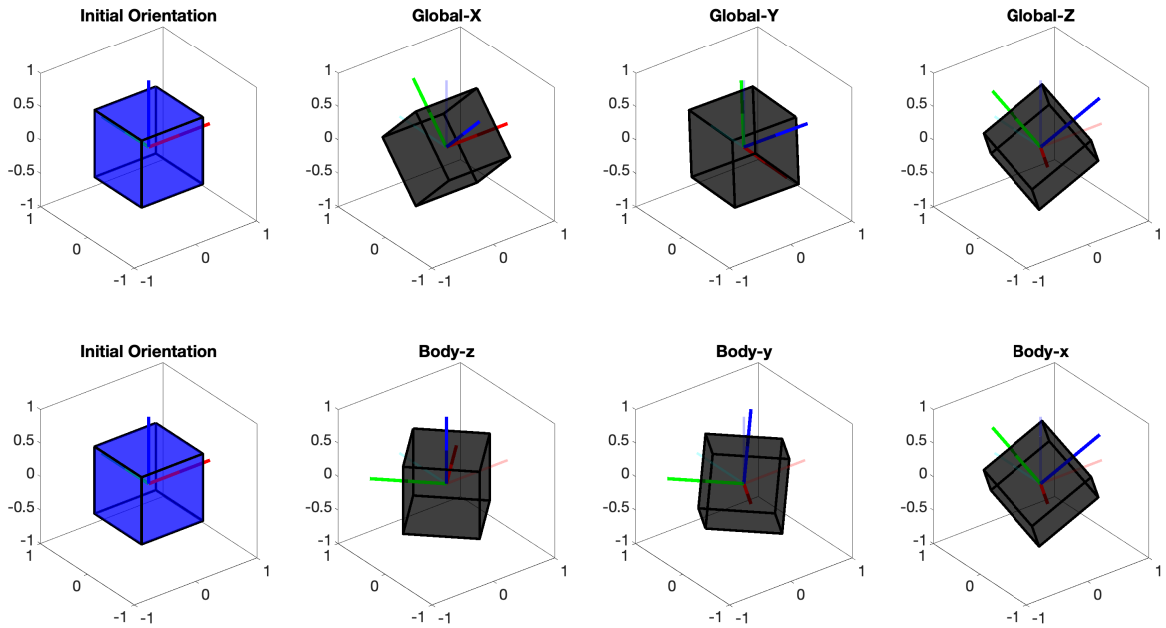

Figure 2: Solution plot for Problem 7(b).
- b. Show the equivalence of successive rotations in the Global and Body frames. First, using Global rotations, use successive 45° rotations in X - Y - Z . Starting with the initial configuration, show each successive rotation in its own subplot. In a new row of subplots, do the same for the successive Body rotations z - y - x . The last subplot of each row should match. A sample figure is shown in Fig. 2.